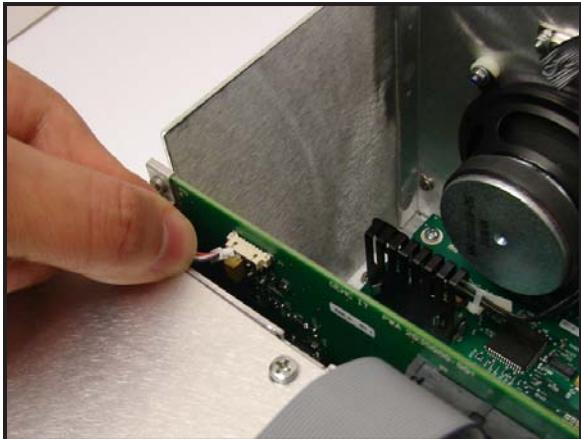

Figure 6-3
2. Disconnect the inverter cable from the J1 connector on the DSP/Display board (See Figure 6-3).